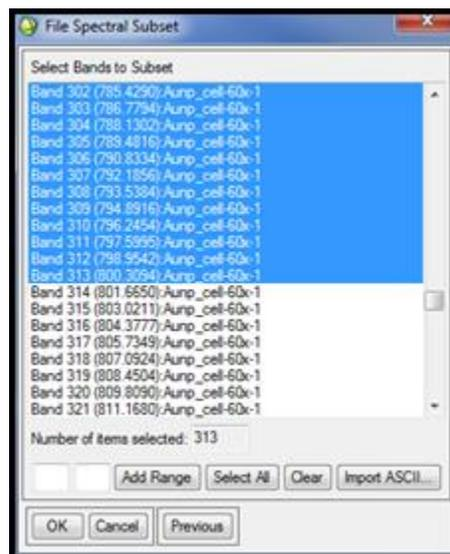

Figure 5.2k. Selection of a subset of the spectral bands
- The Spectral Subset now shows 312 out of 468 bands are selected (Figure 5.2k).